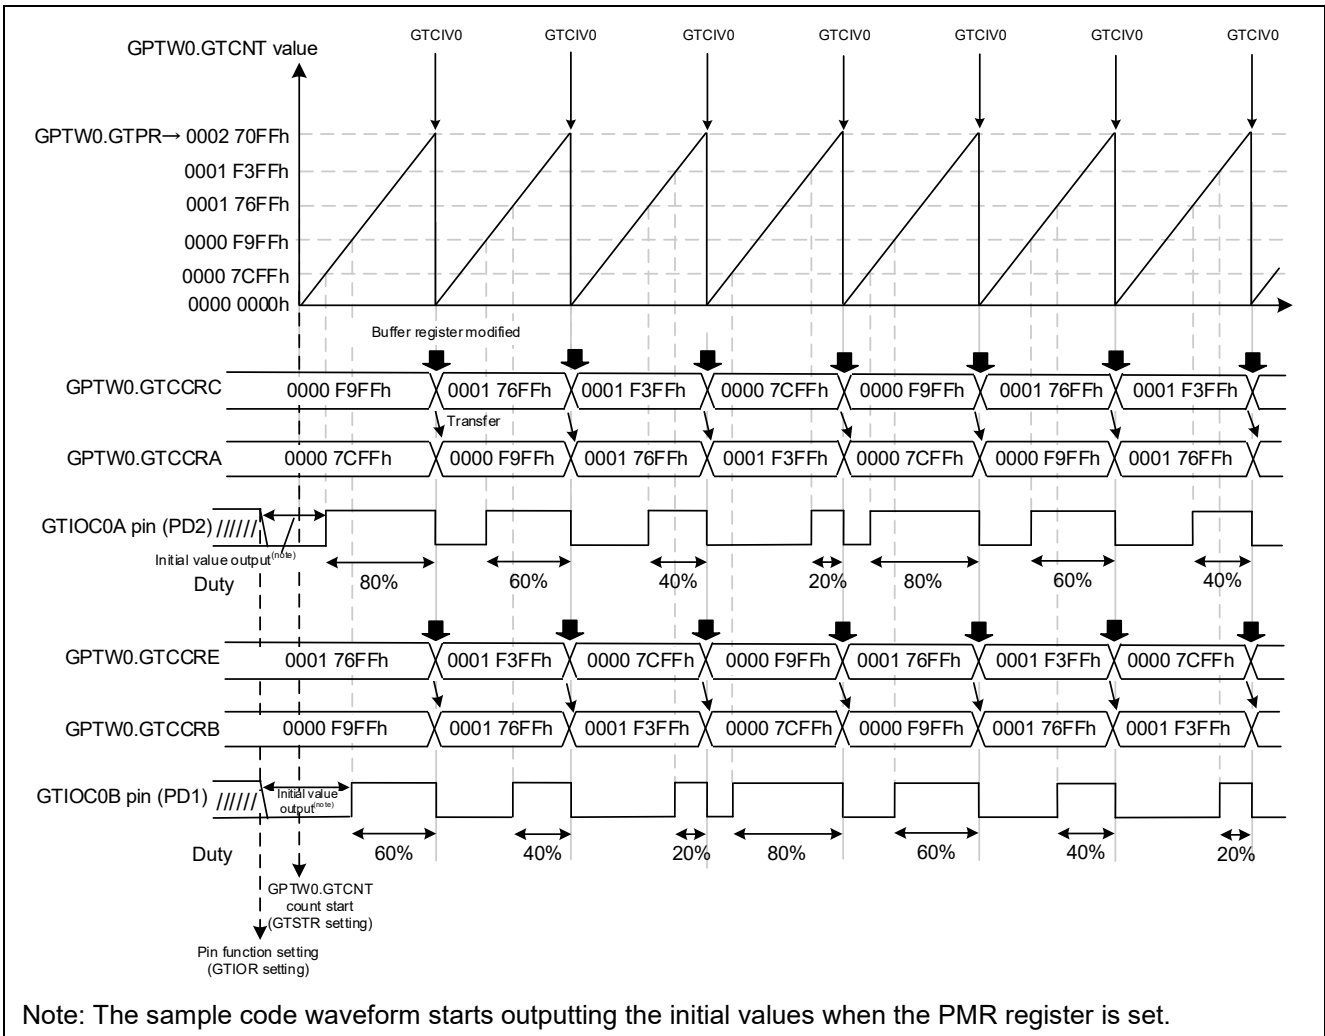

Figure 4.8 Sample Code Operations
- Refer to Figure 4.8 for details on duty change timing
The sample code operations are shown in Figure 4.8. The settings of the duty cycle are changed with each period by modifying the values of buffer registers GTCCRC and GTCCRE at a GTCNT overflow interrupt (GTCIV0). The values of GTCCRC and GTCCRE are transferred to compare registers GTCCRA and GTCCRB when a CTCNT overflow occurs.